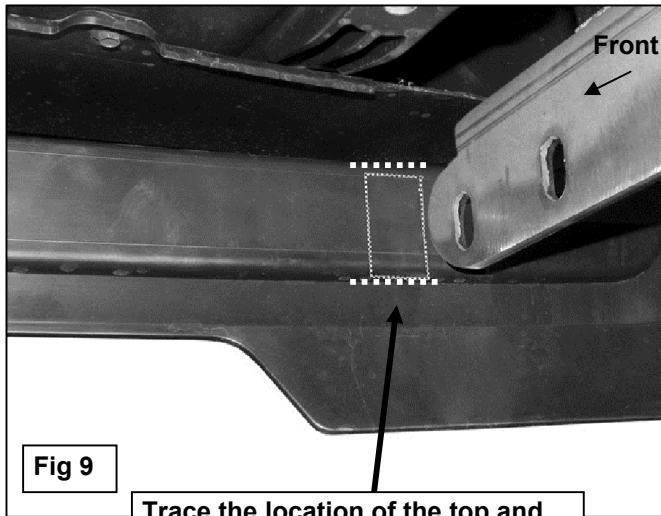

Fig 9
6. Use the location of the previously installed Frame Mounting Bracket to determine where to draw the top and bottom horizontal lines, **(Figure 9)**. Carefully cut this area out of the bumper cover with a sharp knife or hacksaw, **(Figure 10)**. **IMPORTANT:** Do not cut through the top or bottom edge of the bumper cover. Only remove enough material to clear the mounting tabs on the Bull Bar.